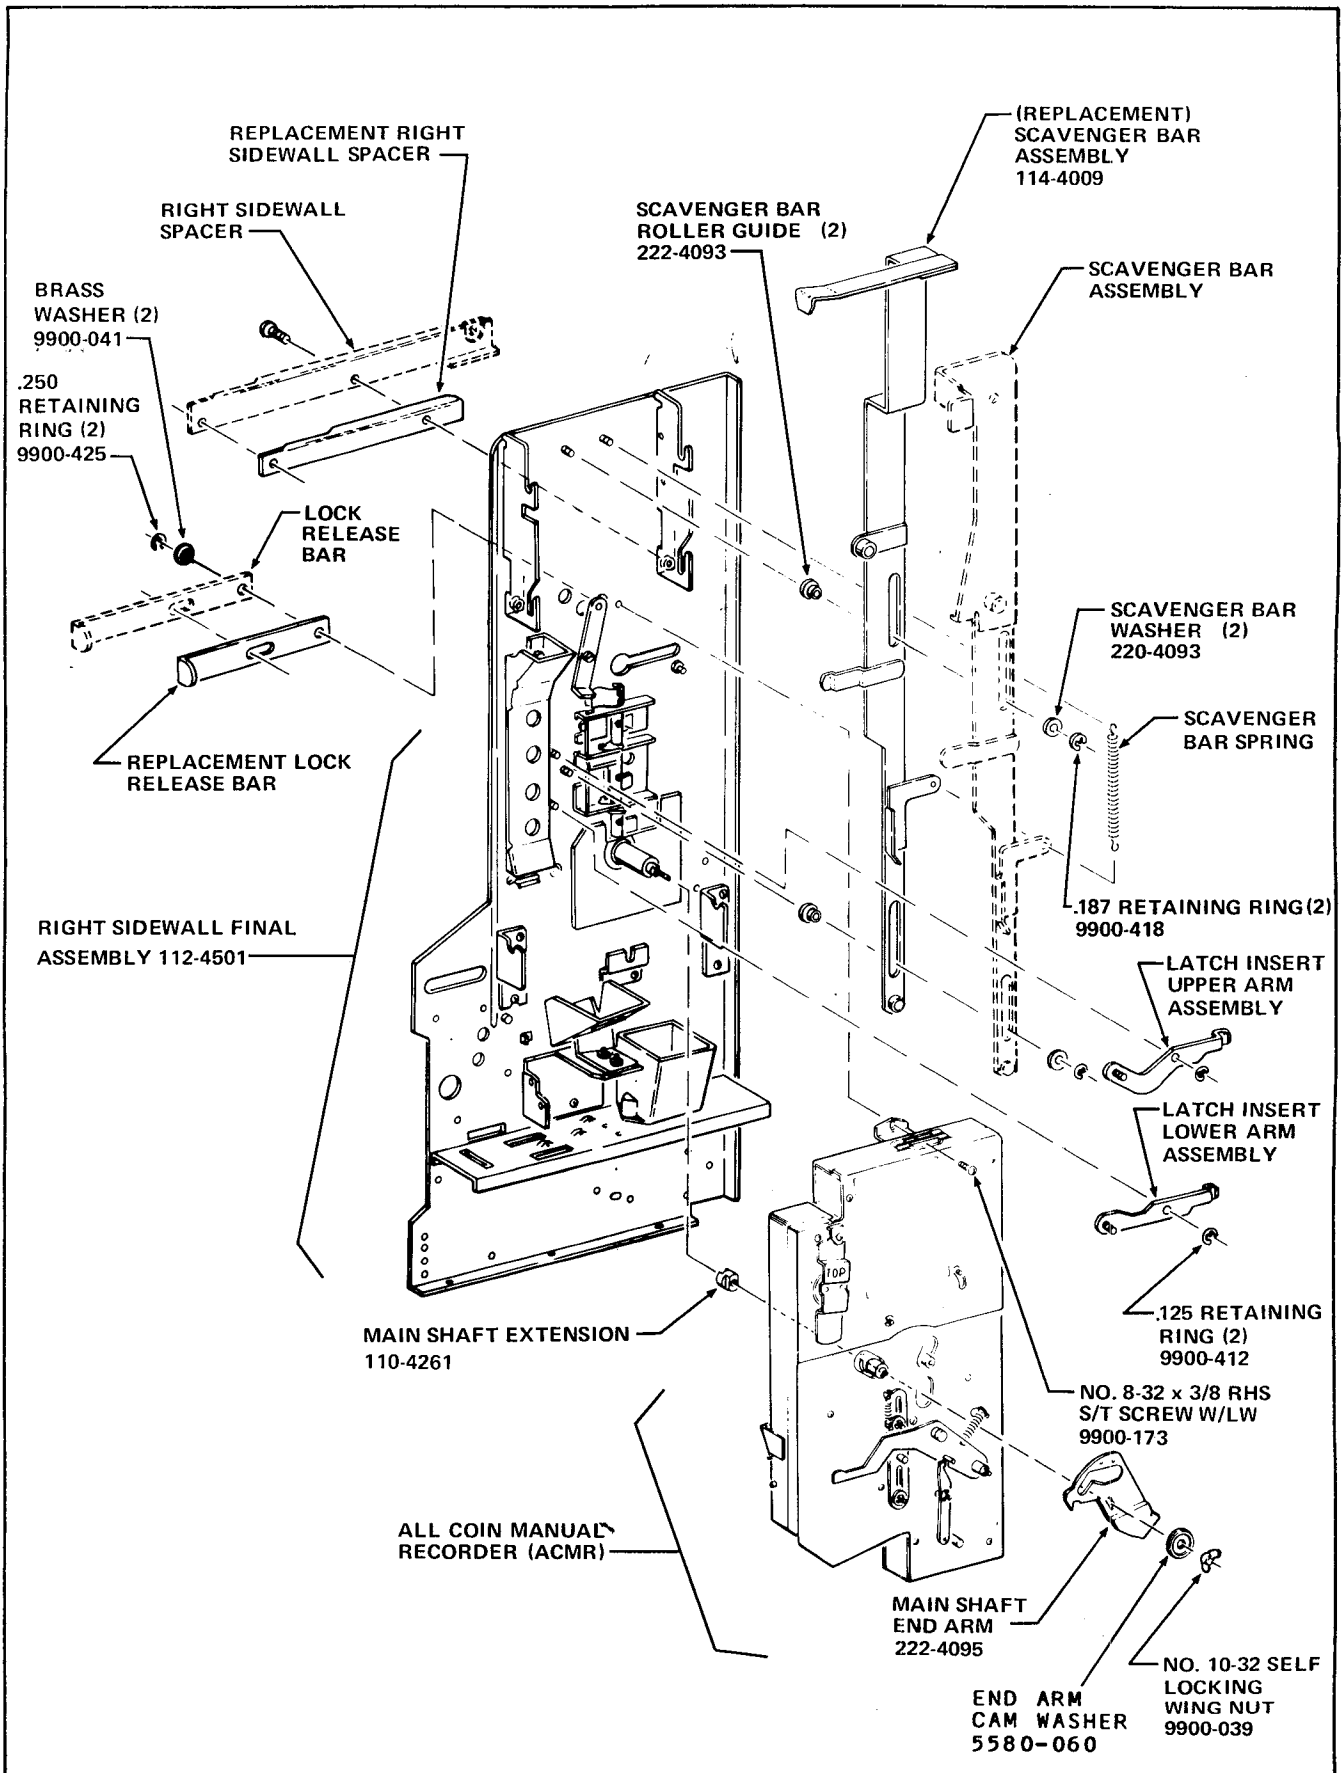

FIGURE 5-3
3. Remove two No.8-32 Nuts with Lockwashers, two Spacer Rollers, two No.8-32 x 5/8 RHS Screws and the Right Sidewall Spacer from the Right Sidewall. Retain the attaching hardware. See Figure 5-3.
4. Install the Right Sidewall Spacer removed in the Parts Removal Procedure on the Right Sidewall and attach with the flange positioned on top using the hardware removed in the preceding step. See Figure 5-3.
5. Remove a Retaining Ring and the Latch Insert Upper Arm Assembly from the Right Sidewall. Retain the Arm Assembly. See Figure 5-3.
6. Remove a Retaining Ring and the Latch Insert Lower Arm Assembly from the Right Sidewall. Retain the Arm Assembly. See Figure 5-3.
7. Remove the end of the Scavenger Bar Spring attached to the Scavenger Bar on the Right Sidewall. See Figure 5-3.
8. Remove two Retaining Rings, two Scavenger Bar Washers, Scavenger Bar Assembly and two Scavenger Bar Roller Guides from the Right Sidewall. See Figure 5-3.
9. Install two Scavenger Bar Roller Guides, Part Number 222-4093, included in the Kit, on two studs of the replacement Right Sidewall. Make sure the wide end of the Roller Guides rest against the Sidewall. See Figure 5-3.
1. Remove two Retaining Rings, two Washers, and the Lock Release Bar from the Right Sidewall. See Figure 5-3.
2. Install the Lock Release Bar, removed in the Parts Removal Procedure, on the Right Sidewall using two 9/16 x .260 x .040 Brass Washers, Part Number 9900-041, and two .250 Retaining Rings, Part Number 9900-425, both included in the Kit. See Figure 5-3.
10. Install the Scavenger Bar Assembly, Part Number 114-4009, included in the Kit, by fitting the slots of the Scavenger Bar Assembly over the Scavenger Bar Roller Guides. Make sure the arm on top of the Scavenger Bar Assembly points towards the front of the Right Sidewall and the Scavenger Bar Guide fits under the Slug Rejector Bracket. See Figure 5-3.
11. Attach the Scavenger Bar Assembly to the Right Sidewall using two Scavenger Bar Washers, Part Number 220-4093, and two .187 Retaining Rings, Part Number 9900-418, both included in the Kit. See Figure 5-3.
12. Attach the Scavenger Bar Spring to the Hole in the Angle Arm of the Scavenger Bar Assembly. See Figure 5-3.
13. Install the Latch Insert Upper Arm Assembly removed in Step B-5 on the Right Sidewall as shown in Figure 5-3 and attach with a .125 Retaining Ring, Part Number 9900-412, included in the Kit.
14. Install the Latch Insert Lower Arm Assembly removed in Step B-6 on the replacement Right Sidewall as shown in Figure 5-3 and attach with a .125 Retaining Ring, Part Number 9900-412, included in the Kit.
43. Install the Main Shaft Extension, Part Number 110-4261, included in the Kit, on the Main Shaft of the Right Sidewall by mating the slotted end of the Main Shaft Extension with the shouldered end of the Main Shaft. See Figure 5-3.
44. Install an All Coin Manual Recorder (ACMR) on the Right Sidewall by fitting the Main Shaft of the Sidewall through the hole in the ACMR. Mount the studs on the sides of the ACMR on top of the Mounting Brackets on the Right Sidewall. See Figure 5-3.
45. Attach the top of the ACMR to the Right Sidewall with a No.8-32 x 3/8 RHS Self Tapping Screw with Lockwasher, Part Number 9900-173, included in the Kit. See Figure 5-3.
46. Install the Main Shaft End Arm, Part Number 222-4095, included in the Kit, on the Main Shaft protruding through the ACMR and attach with a End Arm Cam Washer, Part Number 5580-060, and No.10-32 Self Locking Wing Nut, Part Number 9900-039, both parts included in the Kit. See Figure 5-3.